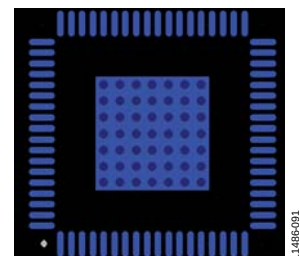

Figure 84. Exposed Pad Layout Example—Top View
- Place vias such that all layers of copper are connected, allowing for efficient heat and energy conductivity. For an example, see Figure 84, which shows 49 vias arranged in a 7 $\times$ 7 grid in the pad area.